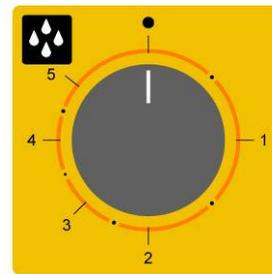

Fig. 3
**Programming vapour quantity** - To generate vapour while the oven is in operation (cooking compartment hot), turn the knob of the automatic humidifier (Fig. 3) in line with the required value (from 1 to 5). If you turn the knob to position • (OFF) the humidifier will stop operating.